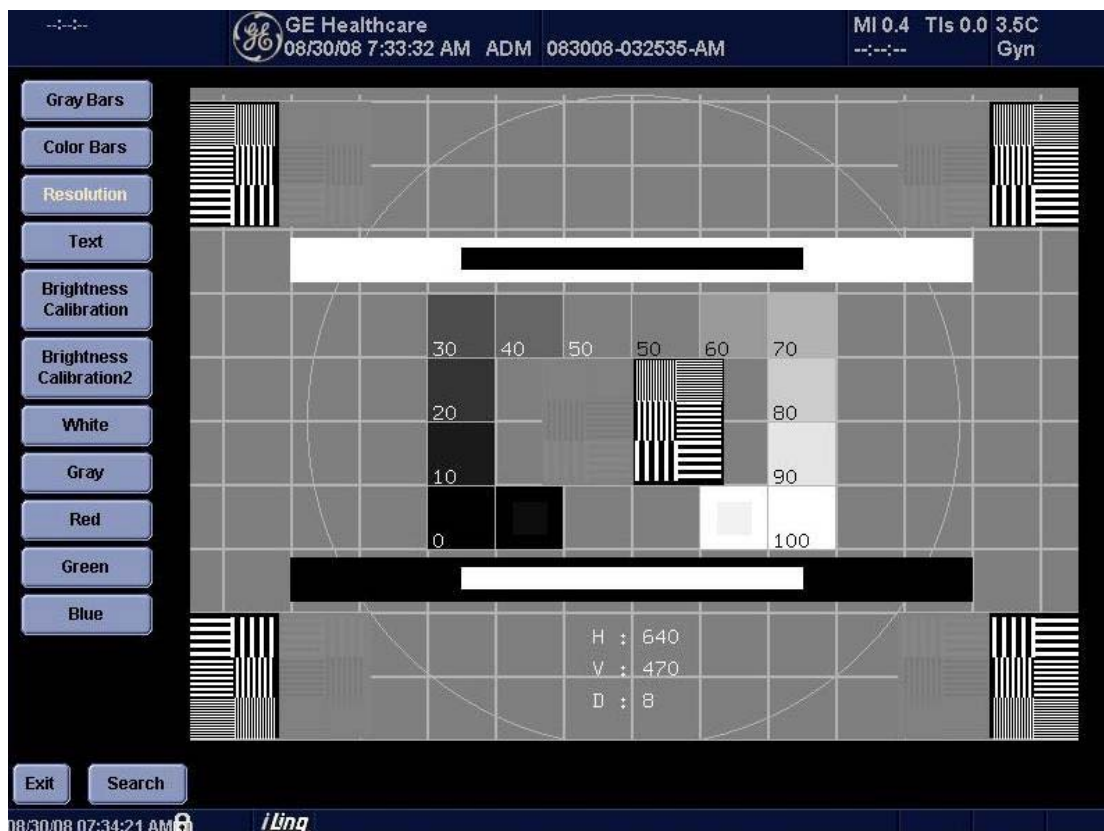

Figure 4-19 Monitor Test pattern screen
- 2.) Select "Utility Key" on the Key board and then choose " Test Pattern" and "Resolution" marked in Figure 4-19.